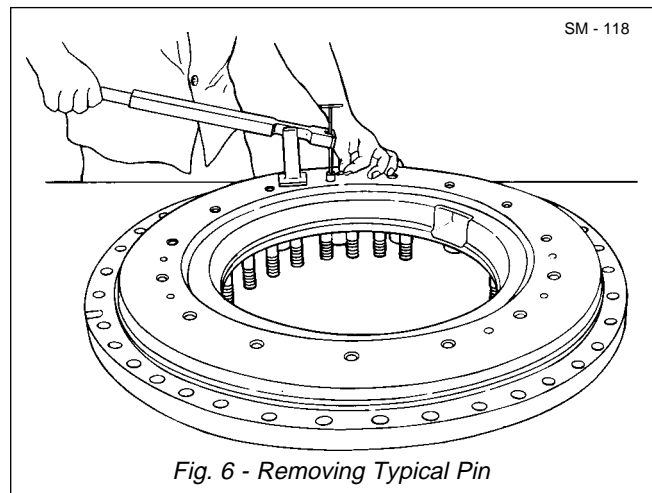

Fig. 6 - Removing Typical Pin
15. With the base of the tool resting on the flat surface of service piston (31), press down on the tool handle to raise retaining pin (35) against the tension of spring (36). Raise retaining pin (35) enough to allow pin (32) to be removed from retaining pin (35). See Fig. 6. Remove spring compression tool from retaining pin (35).
16. Repeat Steps 14 and 15 to remove pin (32) from each retaining pin (35).
17. Install three 0.5 - 13 UNC bolts in three threaded holes in service piston (31). Alternately turn puller bolts in, gradually pulling service piston (31) from piston housing assembly (41). Remove the three puller bolts and remove service piston.